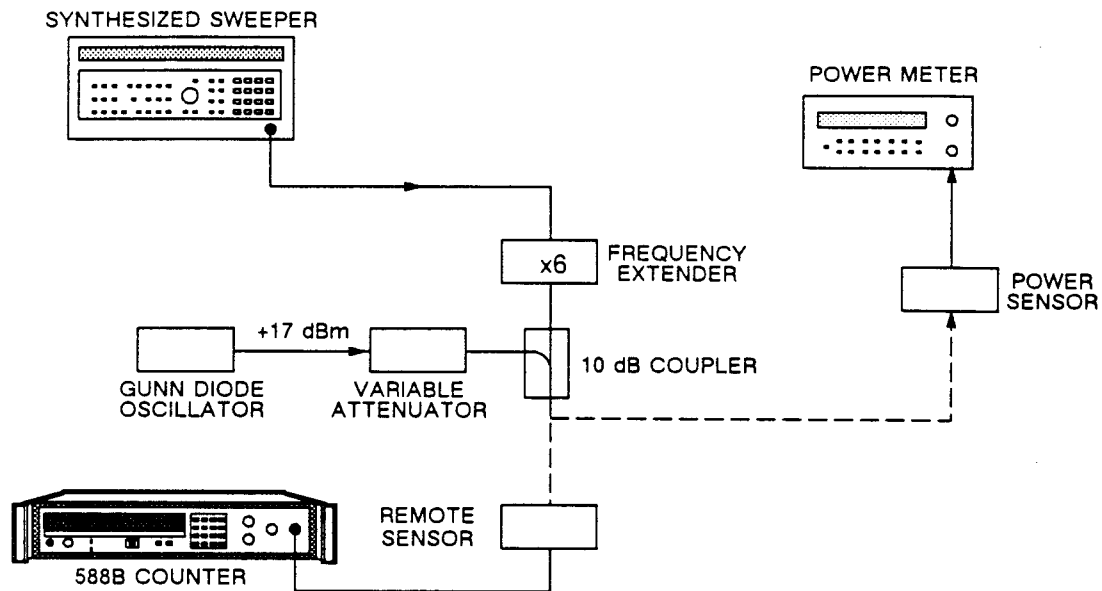

Figure 11-5. Amplitude Discrimination Test Setup.
1. Connect equipment as shown in Figure 11-5.